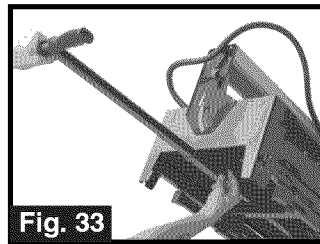

Fig. 33
5. Once your saw is folded up, you can easily move your saw with the double handle. To use the double handle, loosen the knob holding it in place (Fig. 33), and extend it to its full length by pulling it from the saw table base.